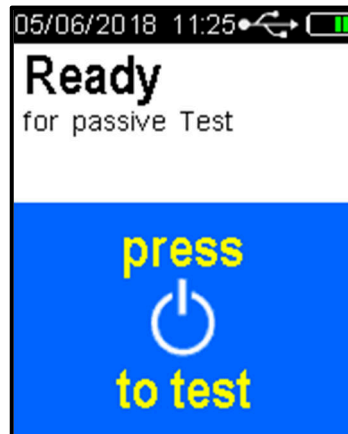

Figure 16 - Ready for Passive Test Message
- On the *press test* screen, press the Test key. *Ready for passive test* is displayed (Refer to Figure 16)